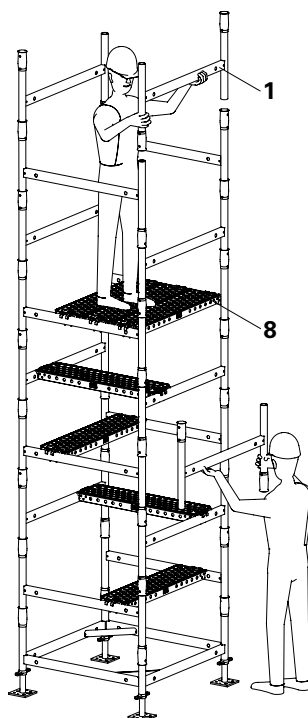

Fig. A2.01
Take all required components up to the required assembly position using the protection of the erected Stacking Tower and install (cf. Fig. A2.01)!
1. Mount Stacking Frames (2) until required height has been reached (4 pieces per metre of height). Check the vertical position of the legs and adjust if necessary. (Fig. A2.01)